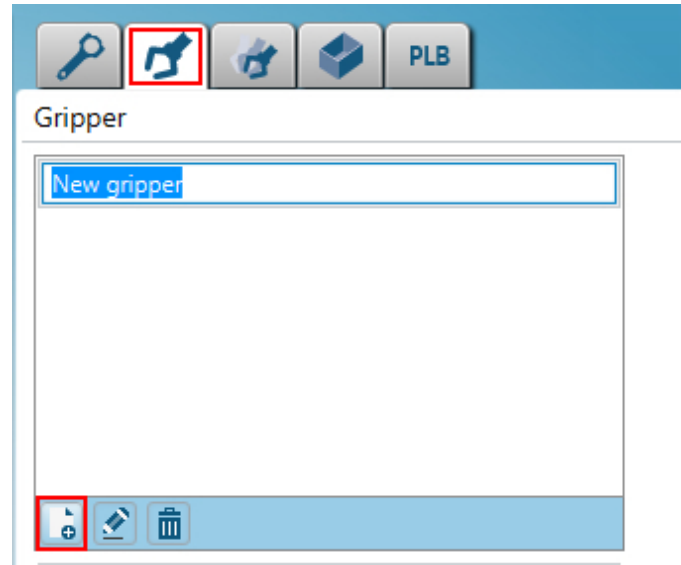

Figure 59: Configuring a new gripper
3. Click **Create new gripper** and enter a name for the gripper (see figure 59).